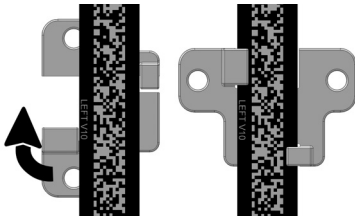

Figure 43: Guide clip is inserted (left) and turned 90° clockwise
2. Insert the code tape into the clip guide rails (Figure 43).